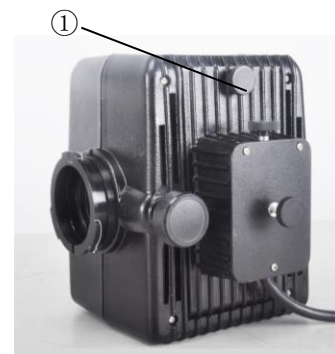
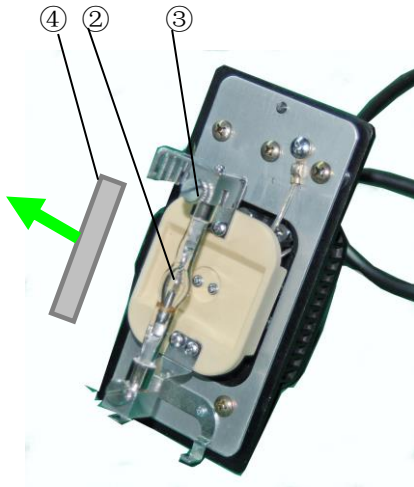

Fig.12
Fig.13
2-2-8 Mounting the Mercury Burner (Fig.12 & fig.13)
1. Loosen the burner socket clamping screw (1), and remove the burner socket. (fig.12)
2. After removing the plastic backstop (4), securely insert the + pole (the wide head) of the specified mercury burner (2) to the lower terminal first and then the - pole (the thin head) to the upper terminal, then tighten the two socket clamping screws (3). (fig.13)